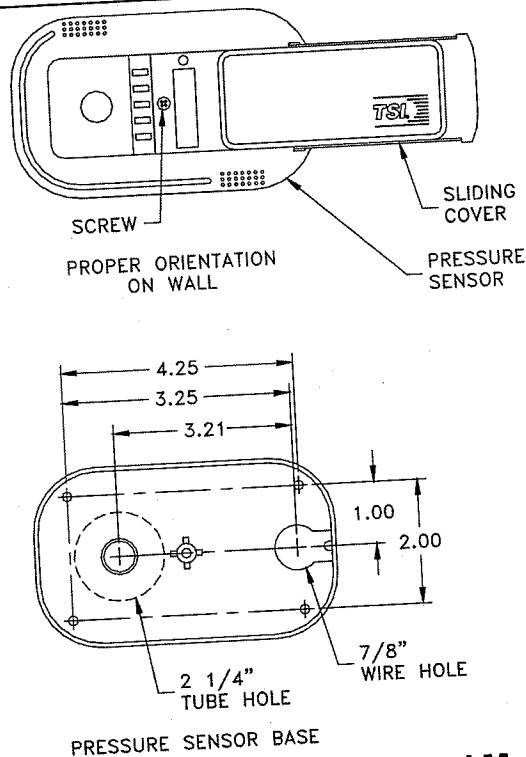

Figure 2: Pressure Sensor Orientation and Mounting Template
WARNING: 800243 pressure sensor must be mounted through the wall between the controlled space (isolation room) and referenced space (hallway), exactly as shown in Figure 2 and 3.
- The pressure sensor must be orientated on the wall as shown in Figure 2. Looking at the mounted sensor, sensor hole is on the left (2 1/4") and wire hole is on the right.
- Drill a 7/8 inch hole on the side of the wall that the pressure sensor will be mounted. This hole is for the six-conductor sensor cable. Refer to Figure 2 for a hole mounting pattern.
- Slide sensor cover to right and remove screw that holds the sensor base to the pressure sensor (Figure 2). Remove pressure sensor and store in a safe place.